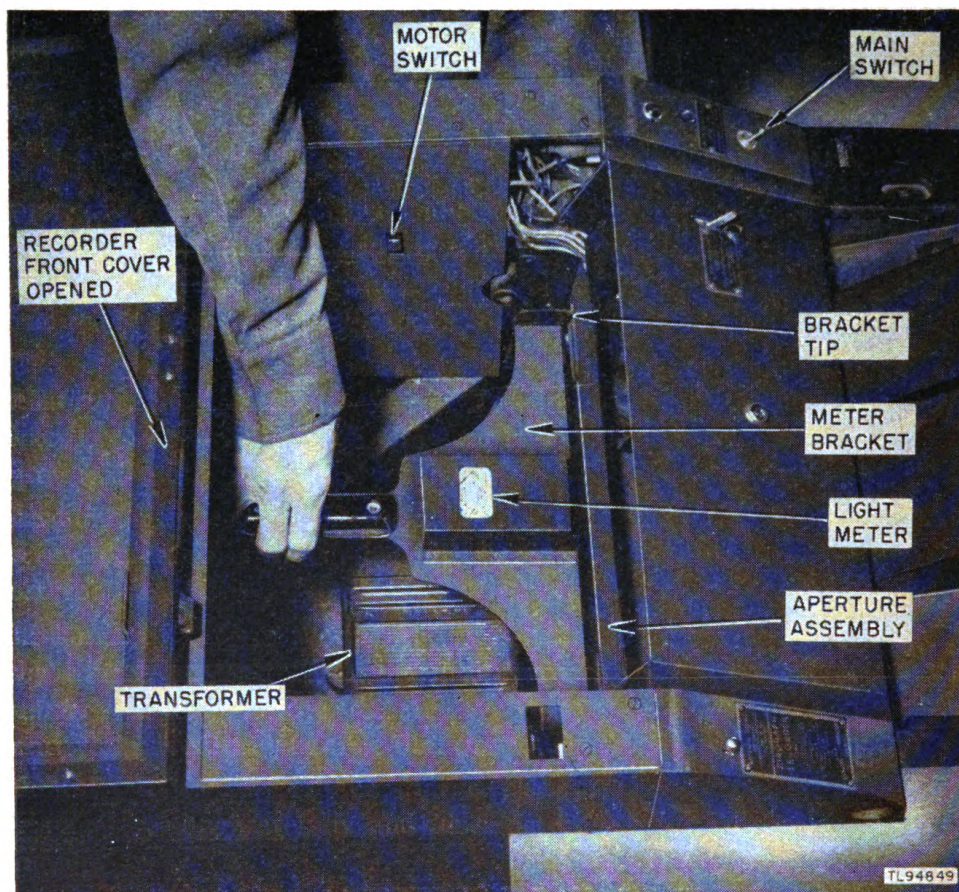

Figure 5. Meter bracket attached to Recorder PH-283.
i. Lower the meter and bracket into the front compartment of the recorder, and hook the tips of the bracket into the slots of the aperture assembly (fig. 5).